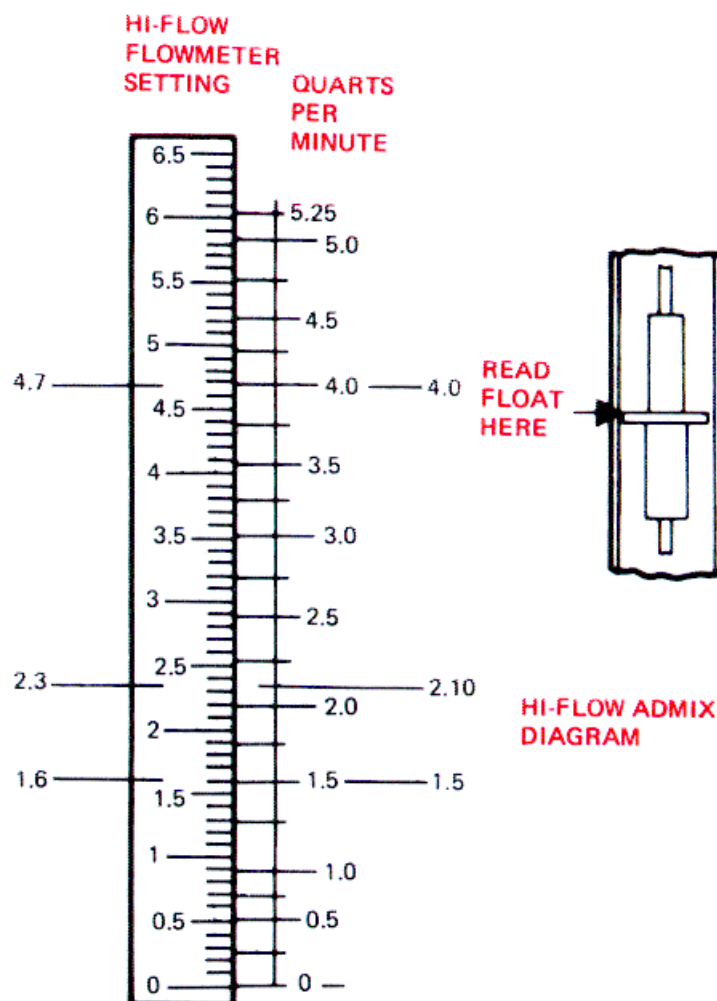

Figure 2-7. Hi-Flow Admix Diagram.
2. QUARTS PER MINUTE 60 seconds per minute - (A) 28.5 = (C) 2.10 <div style="display: flex; justify-content: space-between; width: 100%;"> SECONDS PER BAG BAGS PER MINUTE </div> Since there should be one quart of solution for each bag, (C) is also quarts of solution per minute <div style="display: flex; justify-content: space-between; width: 100%;"> = (C) 2.10 QUARTS PER MINUTE </div>
3. FLOWMETER SETTING (HI-FLOW) Find (C) on the quarts scale of the Hi-Flow Admix Diagram (fig 2-7) Go left to find setting on the flowmeter scale <div style="text-align: right; margin-right: 50px;"> <div style="border: 1px solid black; padding: 5px; display: inline-block;">2.3</div> HI-FLOW ADMIX SETTING </div>
4 TO CHANGE THE CONCENTRATION OF ADMIXTURE (D) NEW CONCENTRATION OF ADMIXTURE PER BAG OF CEMENT 5 <div style="text-align: right; margin-right: 20px;">(OUNCES PER BAG)</div> (D) 5 - (B) 7 = (E) 5/7 <div style="display: flex; justify-content: space-between; width: 100%;"> (NEW CONCENTRATION) (OUNCES PER BAG) (QUARTS OF SOLUTION PER BAG CEMENT - NEW CONCENTRATION) </div> (E) 5/7 X (C) 2.10 = (F) 1.5 <div style="display: flex; justify-content: space-between; width: 100%;"> (QUARTS OF SOLUTION PER MINUTE) (QUARTS OF SOLUTION PER MINUTE - NEW CONCENTRATION) </div> Find (F) on the quarts scale of the Hi Flow Admix Diagram (fig 2-7) go left to find new setting on the flowmeter scale <div style="text-align: right; margin-right: 50px;"> <div style="border: 1px solid black; padding: 5px; display: inline-block;">1.6</div> HI-FLOW ADMIX SETTING </div>